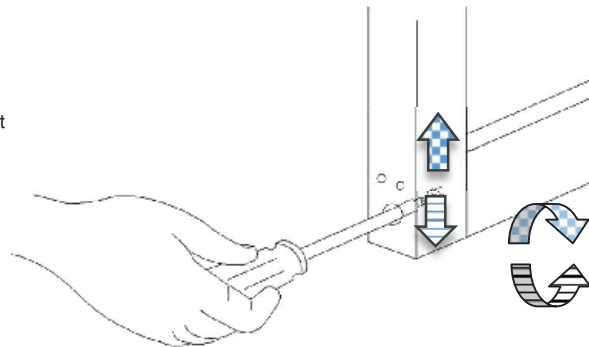

FIGURE 2
18. Once all panels are installed and adjusted, affix pocket closure plate (Part #19) and pocket closure support brackets (Part #20) to the pocket panel as shown in Figure 1. The plate and support bracket generally should be in line with the horizontal cut on the top of the pocket panel interlock as shown in Figure 2, however the roller adjustment will dictate the final positioning of the pocket closure plate. The pocket closure plate runs the span of the pocket panel and should hide the interior of the pocket while the door is closed. The pocket closure support brackets should be positioned at the top, middle, and bottom of the panel. Use screws (Part #3) every 12 inches down the vertical stile of the pocket closure plate and use 2 screws through the pre-drilled holes in each pocket closure support bracket.